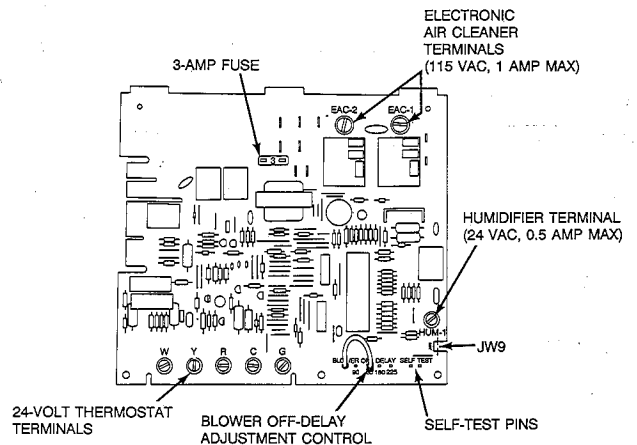
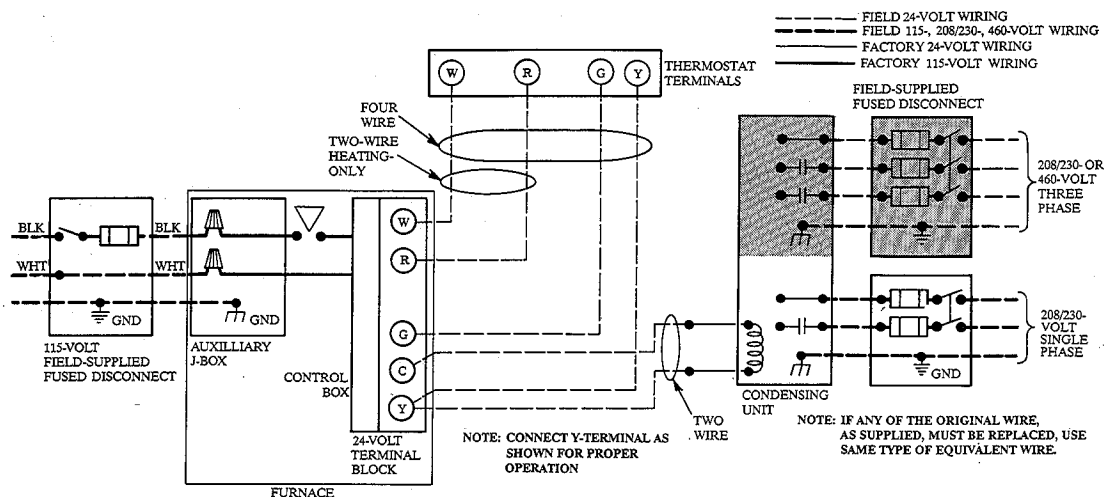

Fig. 11 —Control Center
Fig. 12 — Heating and Cooling Application Wiring Diagram
24-VAC WIRING — Make field 24-v connections at the 24-v terminal strip. (See Fig. 11.) Connect terminal Y as shown in Fig. 12 for proper operation in cooling mode. Use AWG No. 18 color-coded wire only.
1. Self-test—The furnace features a self-test system to help diagnose a system problem in the case of a component failure. Two test pins (ST-1 and ST-2) are located in the upper right-hand corner of the control board as shown in Fig. 11. To initiate the self-test procedure, momentarily short across the 2 pins (approximately 0.5 sec).